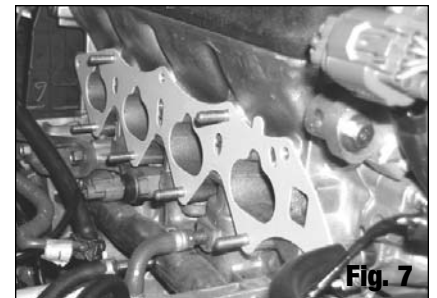

Fig. 7
- Using the supplied gasket, install the Victor X manifold / throttle body / fuel system assembly onto the engine (**See Fig. 7**). (Remember: Remove the paper towels or rags before installing the intake manifold). After placing the Victor X manifold onto the intake studs and hand tightening the studs, you will have clearance to install the stud that was removed previously. If desired, this stud may be replaced with a 8mm x 1.25, 25mm long bolt. You may now tighten all intake nuts. Follow the factory service manual for proper torque values and tightening sequence. Re-connect all factory sensors and vacuum hoses. Re-connect the factory fuel injector wiring harness to the stock fuel injectors, and re-attach the harness to the fuel rail bracket. Re-connect the stock throttle cable to the new bracket and following the factory service manual, adjust the throttle cable for proper operation.